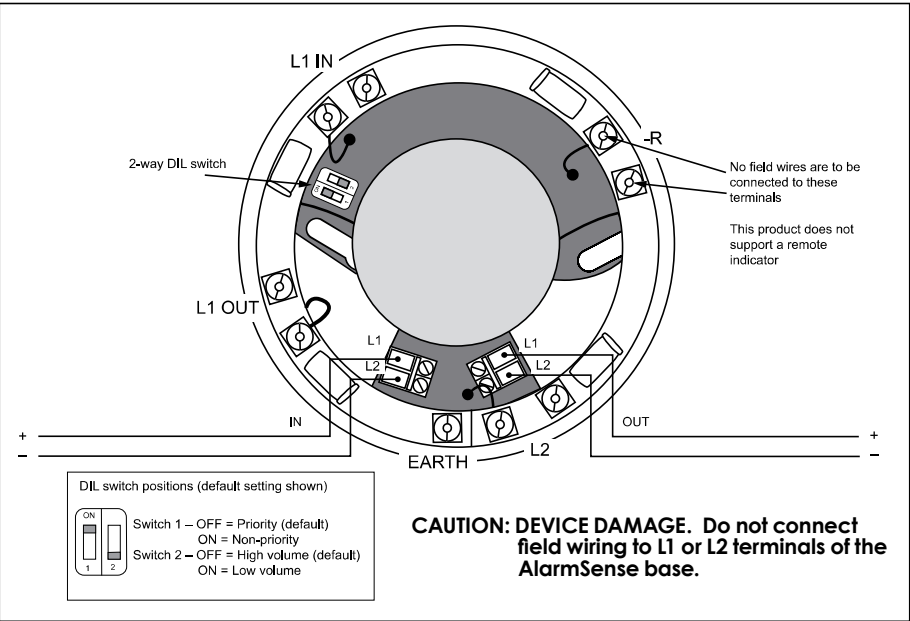

Fig 2a Combined Sounder/Sounder Visual Indicator Base
The AlarmSense Sounder Visual Indicator Base (**Fig 2a**), Part No. 45681-509, combines a sounder with a visual indicator and a detector base in one unit. The visual indicator is activated whenever the sounder is active and cannot be controlled separately.
- 3. The priority/non-priority feature and volume are set by means of the DIL switch, see **Fig 2a & 2b**.